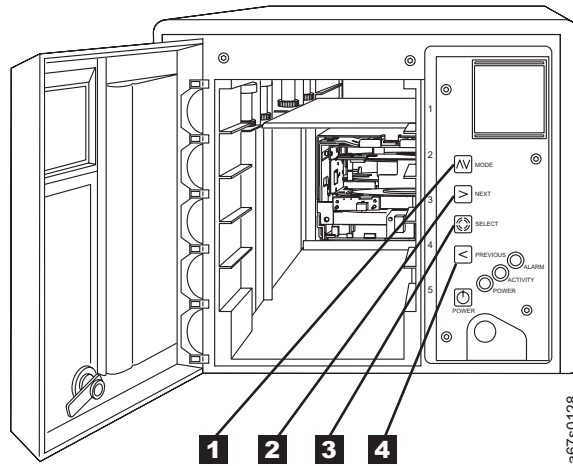

Figure 3. Using the control buttons to determine or change a SCSI ID
1. Repeatedly press the MODE button (**1** in Figure 3 on page 12) until **SET SCSI** appears on the message display.